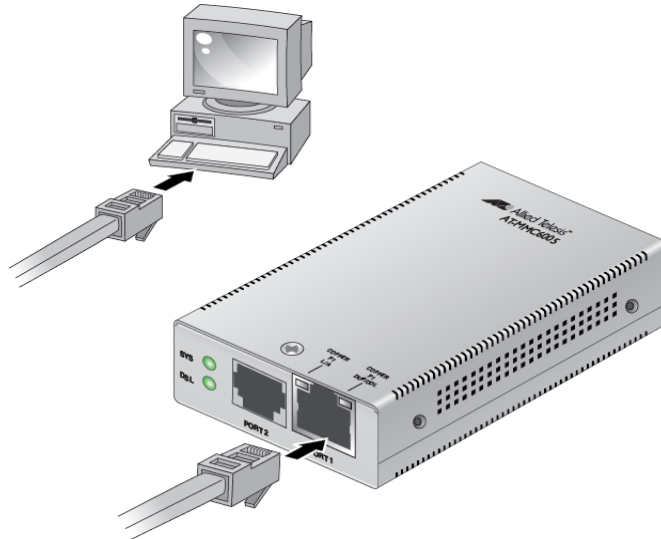

Figure 13. Ethernet to Computer
1. Connect the Ethernet cable from the Ethernet port to the Ethernet port on the computer, as shown in Figure 13.